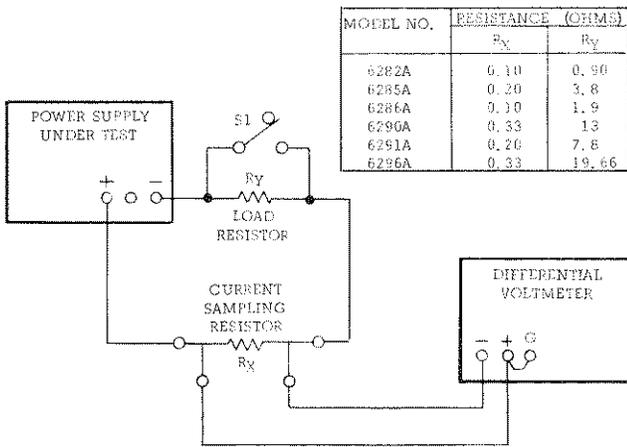

Figure 5-4. Output Current Test Setup
- Connect test setup shown in Figure 5-4, leaving switch S1 open.
- a. Connect test setup shown in Figure 5-4.
- a. Utilize test setup shown in Figure 5-4 leaving switch S1 open throughout test.
- a. Use test setup shown in Figure 5-4, except connect AC voltmeter across sampling resistor instead of differential voltmeter.